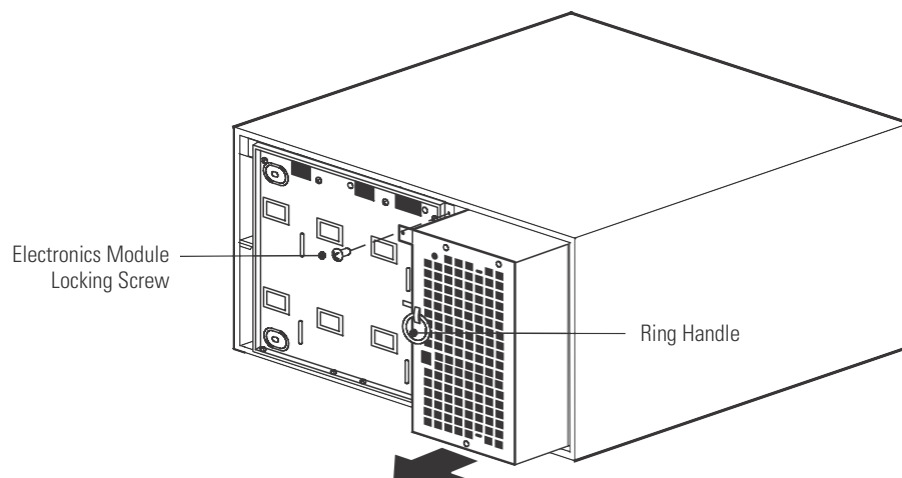

Figure 50. Removing the Electronics Module
10. Remove the electronics module and set it aside (see Figure 50):
17. Reinstall the electronics module locking screw (see Figure 50 on page 67).